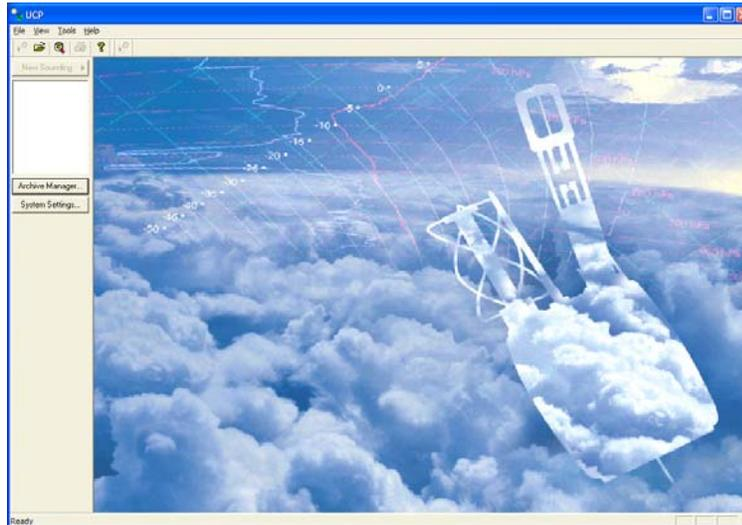

Figure 3: DigiCORA III initial screen
22. Go to the BBSS computer to start the DigiCORA III program. If it is already open, the screen should look like the following (Figure 3).
23. If the screen (Figure 3) is not displayed, double-click on the DigiCORA icon on the desktop.